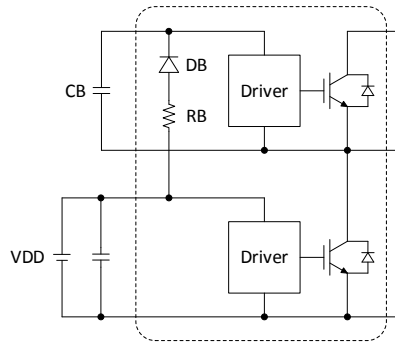

Figure 19. Bootstrap Circuit
VBV, VBW VBV	The VBx pins are internally connected to the positive supply of the high-side drivers. The supply needs to be floating and electrically isolated. The bootstrap circuit shown in Figure 19 forms this power supply individually for every phase. Due to integrated boot resistor and diode (RB & DB) only an external boot capacitor (CB) is required.